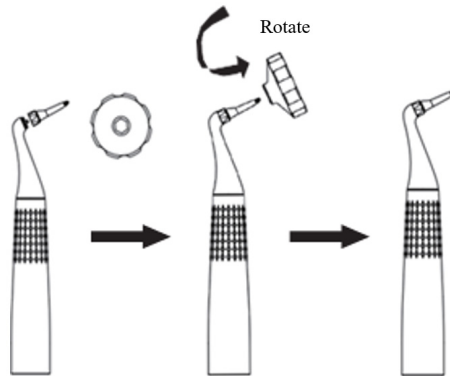

Figure 7 Nozzle locking
3.4.2 Install the nozzle before use, take out the nozzle assemble the nozzle to the end of the subgingival handpiece. Rotate the nozzle nut to the head handpiece first, and then lock the nozzle with a wrench, as shown in Figure 7.